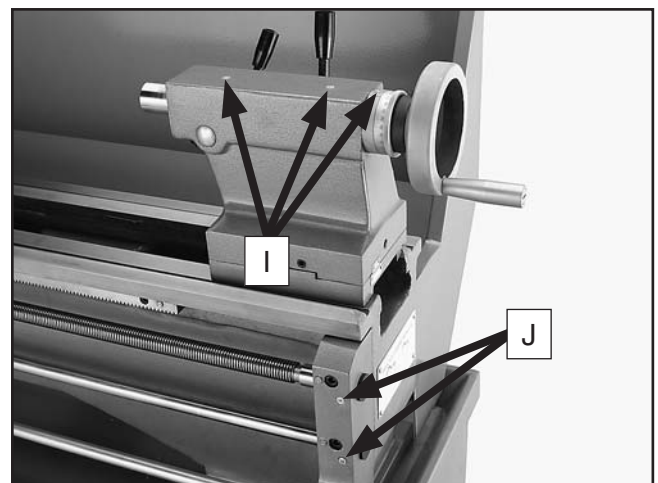

Figure 81. Tailstock ball fittings.
- I. Tailstock:** Lubricate three oil ports (see **Figure 81**).
- J. Lead Screw and Feed Rod:** Lubricate two oil ports (see **Figure 81**).